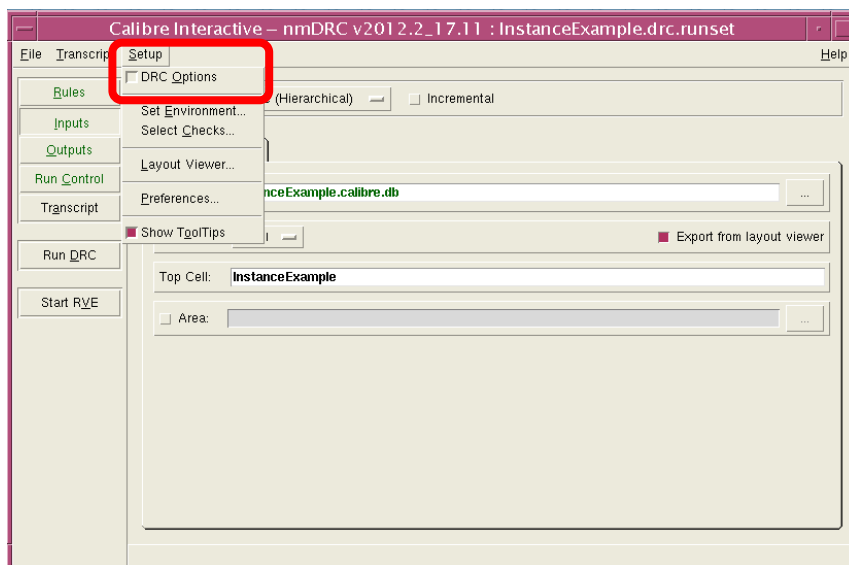

Figure 46: Calibre Interactive Dialog Box
- ii. On the **Calibre Interactive** main menu, choose **Setup | DRC Options** (see Figure 46).